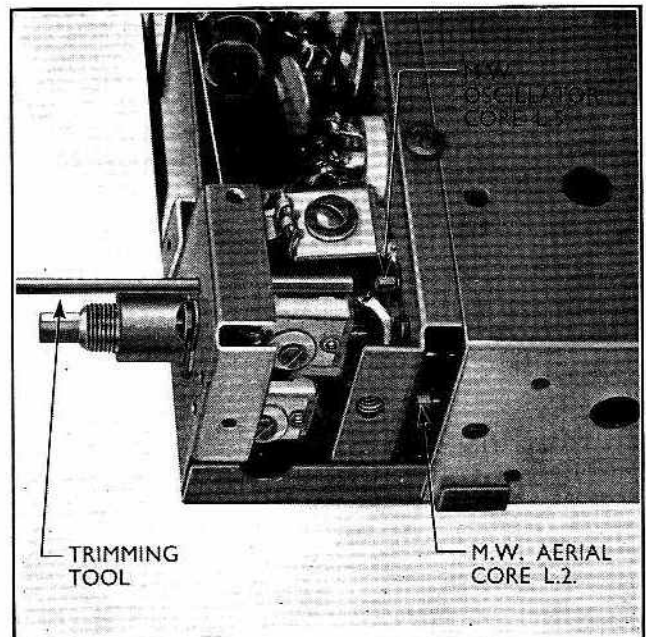

Fig. 614
- 2 Tune the receiver to the 1300 Kc/s calibration mark on the medium waveband. Inject 1300 Kc/s to the aerial socket and adjust the cores of L5 and L2 for maximum output, see Fig. 614.